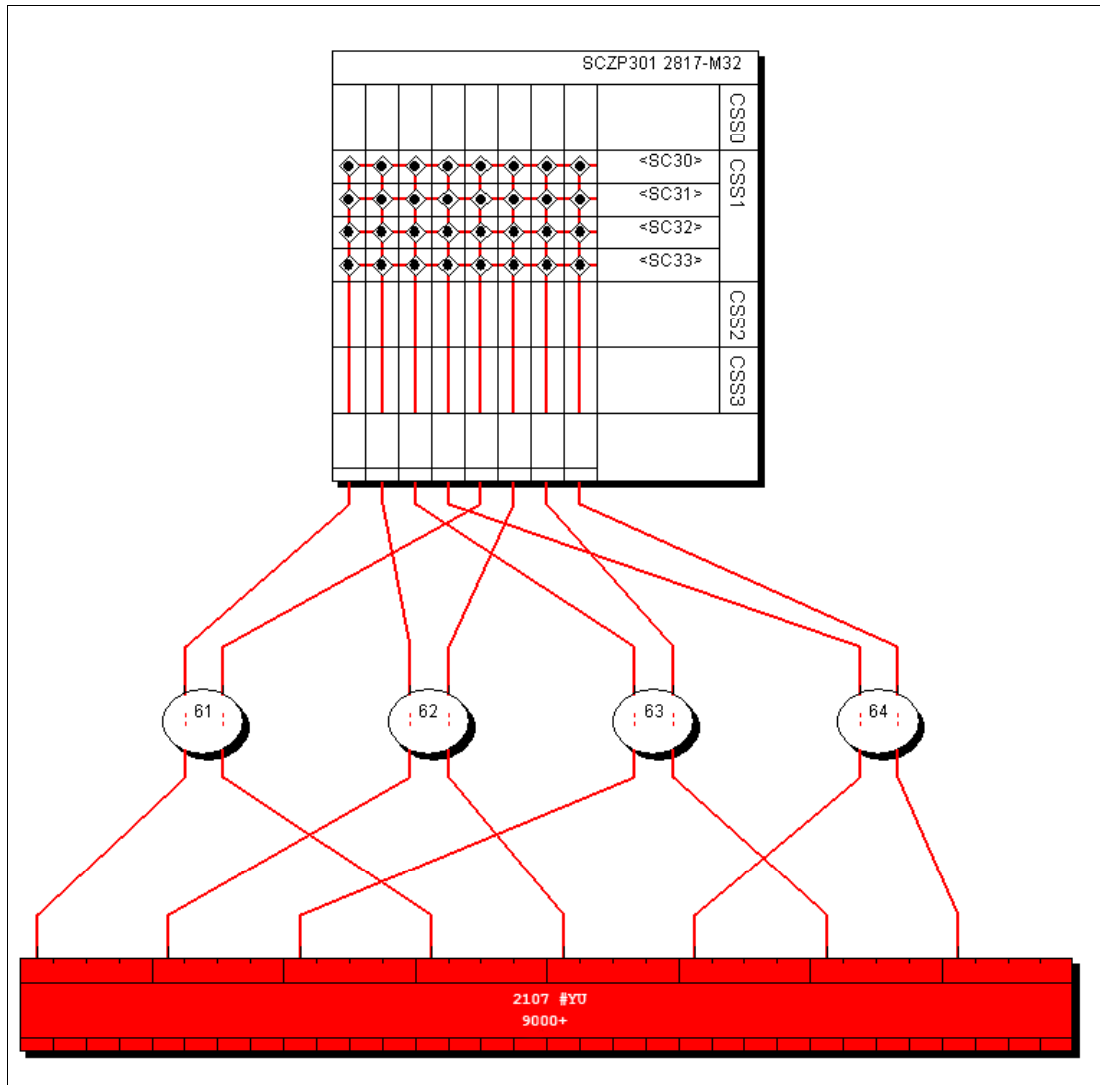

Figure 6-19 HCM DASD Controller view
15. Click **OK**, select **Edit** → **Controller**, and select the DASD controller for our test. See Figure 6-19 on page 171.